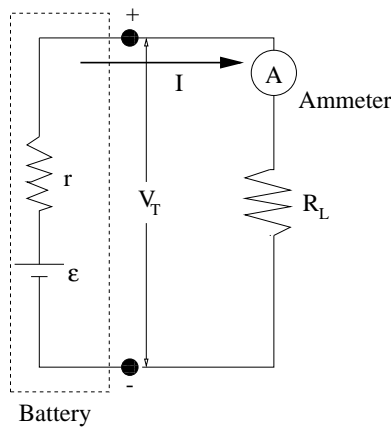

Figure 7: The circuit for finding the internal resistance of the battery.
1. Wire up your battery in series with an ammeter and a resistor as shown in figure 7